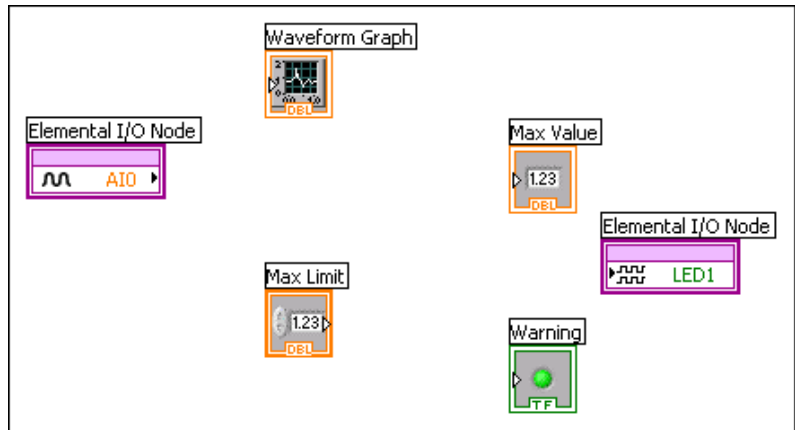

Figure 15. Adding the Elemental I/O Nodes to the Block Diagram
6. Place a DSP LED node, located on the **Programming»Elemental I/O** palette, on the block diagram as shown in Figure 15.